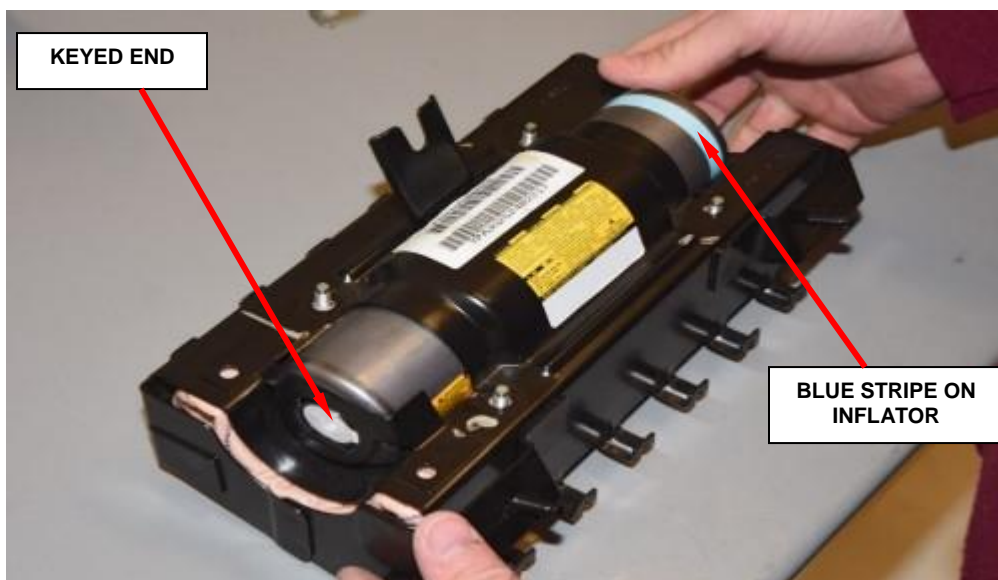

Figure 112 – Insert Inflator
- k. Slide **new** inflator into housing. The keyed end is inserted first, therefore the blue stripe on the inflator will be located at the open end, as shown (Figure 112).